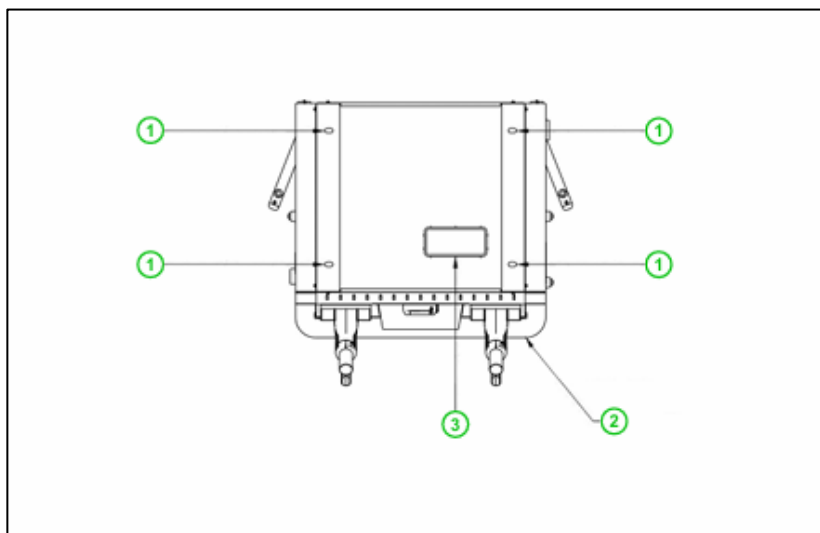
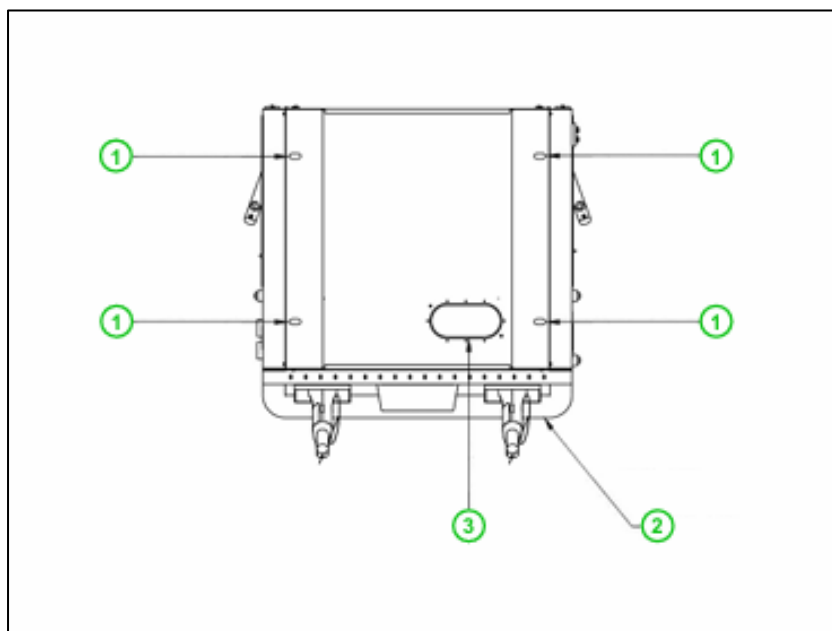

Figure 2.5.3 Drilling position at the end of 120~180 kW AC incoming line
Figure 2.5.6 Drilling position at the end of 240~360 kW AC incoming line
③ Please refer to Figure 2.5.3 / Figure 2.5.6 for the drilling position at the bottom of incoming power line;
④ Lay the power cord in advance, and the multi-core cable shall be peeled off under the foundation. After peeling off AC power cable, the exposed length reserved by foundation shall be no less than 23-5/8 inches (600 mm).